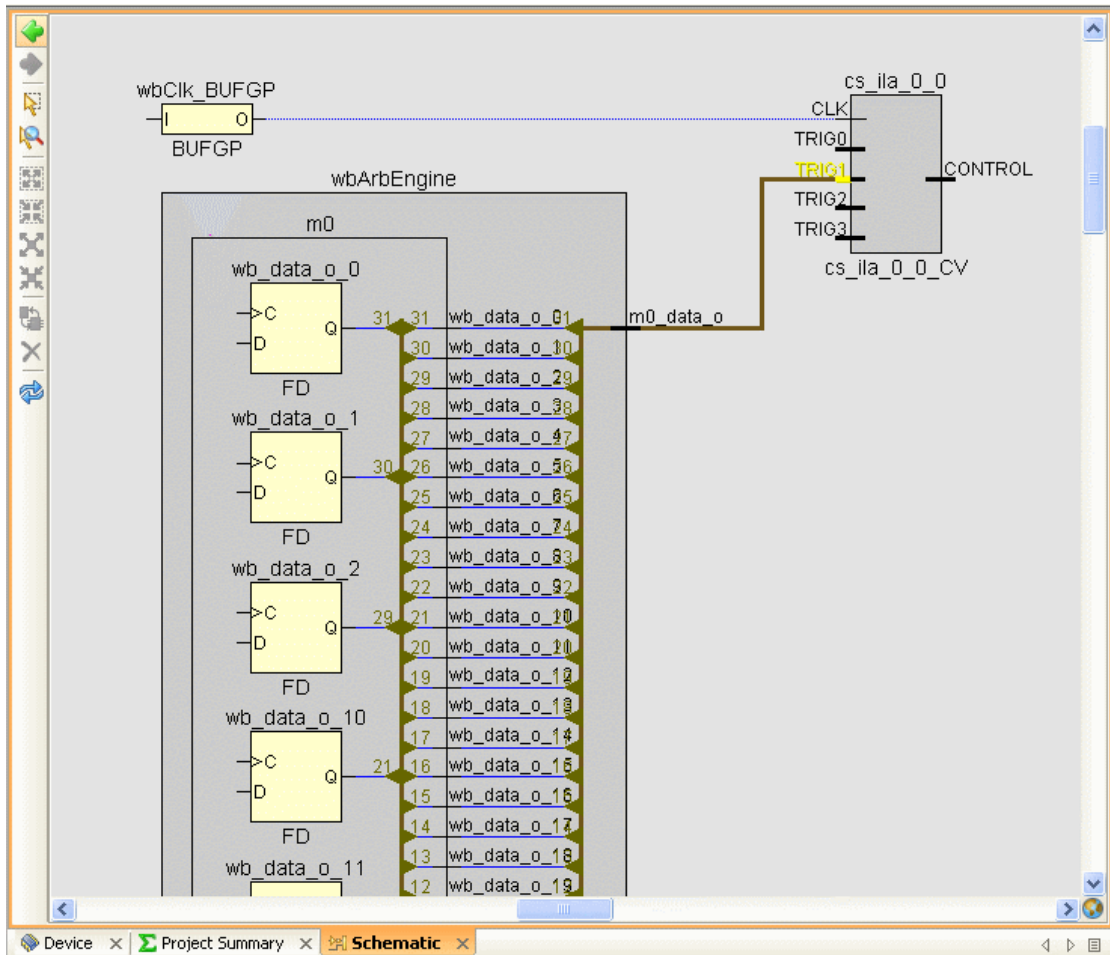

Figure 20: PlanAhead Expanded Schematic of TRIG1 Net
- 5-1-12.** Zoom in to view the expanded cs_ila_0_0 schematic (Figure 20). To Zoom in, click on the schematic diagram in the upper-left corner and drag the mouse to the lower right.